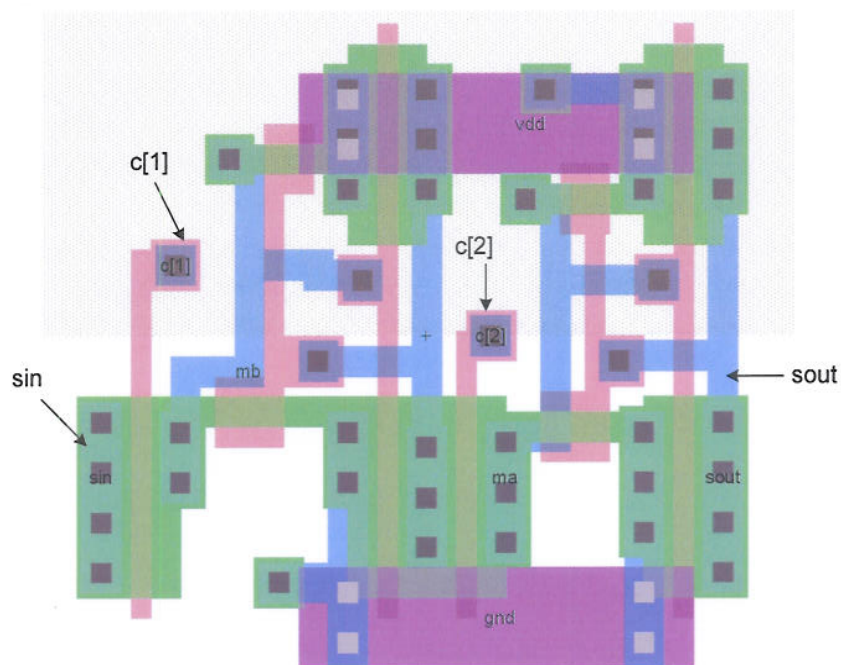

Figure 1.2 Layout of full-custom cell Q for Question 1
- b) *Figure 1.2* (see the colour supplementary sheet) shows the layout of an n-well CMOS circuit *Q* with four terminals: *c[1]*, *c[2]*, *sin* and *sout*. Extract and draw the transistor-level schematic diagram of this circuit.
- c) Assuming that the transistor connected to the terminal *sin* for the circuit *Q* in *Figure 1.2* is of size  $20\lambda \times 2\lambda$ , find the size of all transistors for the circuit.